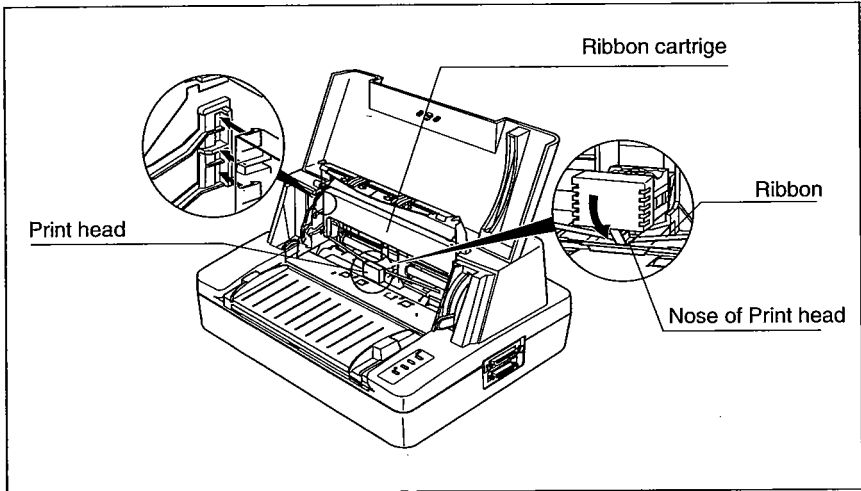

Figure 2-6 Installing the ribbon cassette
- 6 To install the ribbon cartridge, hold it with both hands, with the ribbon facing down as shown in Figure 2-6.